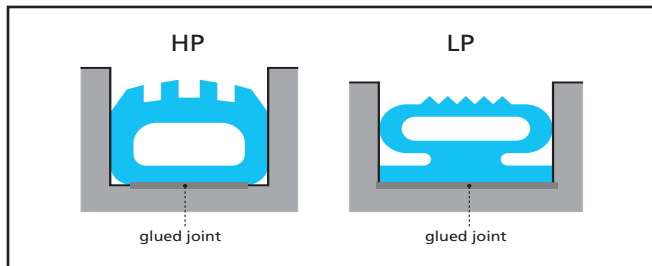

Figure 7 Installed Airseal in groove
Low-pressure seals (LP) are generally secured mechanically with clamping elements. Figure 7 and Table III show the mounting elements with the corresponding installation dimensions.